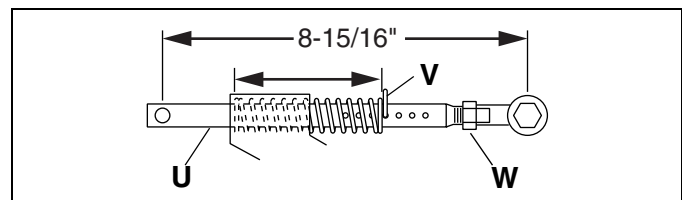

Figure 3F
3. Raise reels and install down pressure spring pins (**V**, Figure 3F). If cutting height has not changed, set pins in same position they were in when reels were removed.
1. Lower reels to the ground and remove down pressure spring pins (**V**, Figure 3F). Make note of where springs are set.